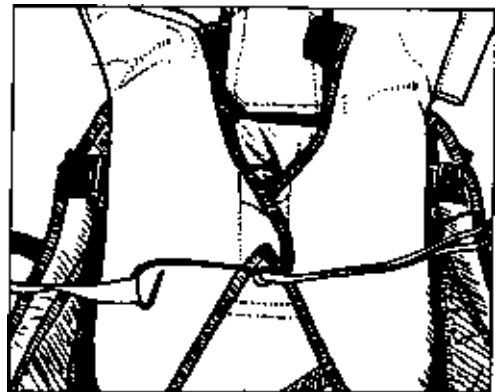

Figure 14
Step 26 Close flap #3 and lock with temp pin. *Figure 14*